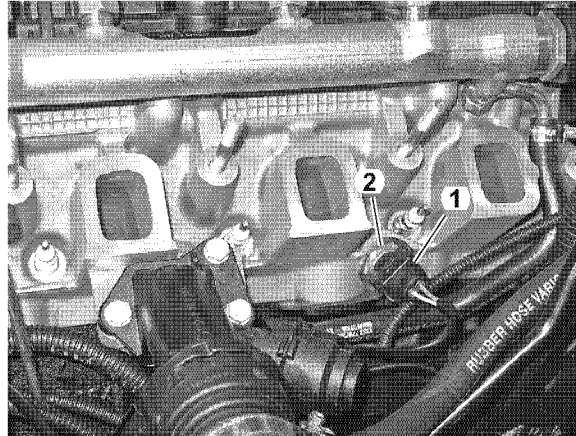

Figure 12-24
3. Remove electrical connector (1, **Figure 12-24**) from sensor.
4. Remove sensor (2, **Figure 12-24**) from cylinder head.